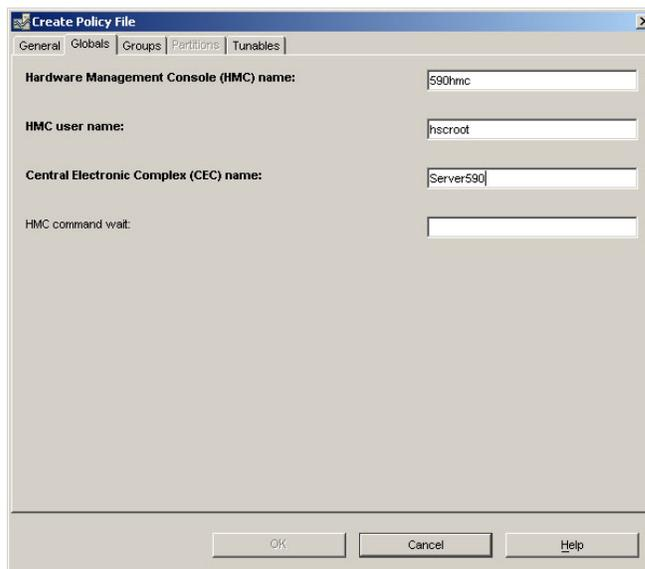

Figure 6-8 PLM wizard Globals tab of the Create Policy File window
4. Complete the information in the Globals tab, as shown in Figure 6-8. The HMC name is the name or IP address of your HMC. Check again that the name you choose here can use the `ssh` command to the HMC without prompting for a key exchange or for a password.